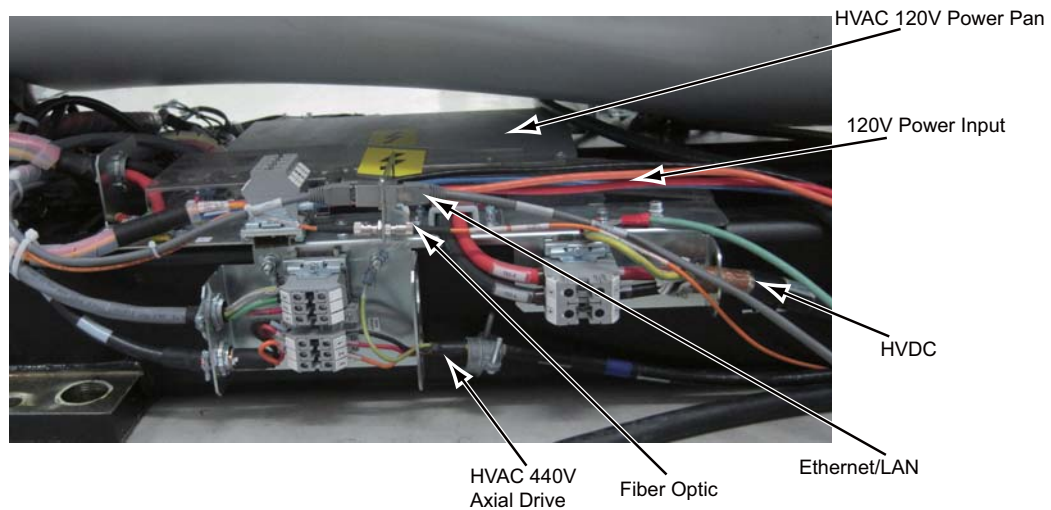
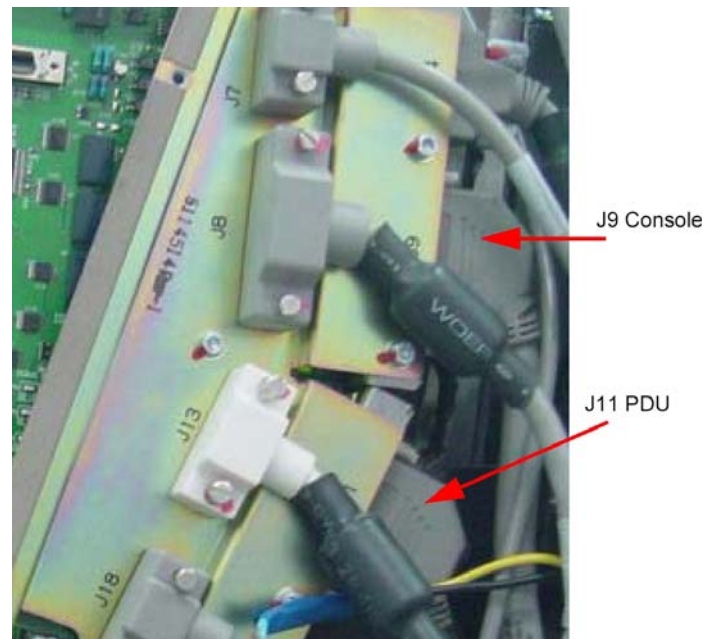

Figure 2-14 Gantry Power Pan Connections
Figure 2-15 TGPG Connections
- 2.) Install the cables to the gantry power pan. The power pan is located on the rear of the gantry at its base. See Figure 2-14, Figure 2-15, and Figure 2-15 for connections.